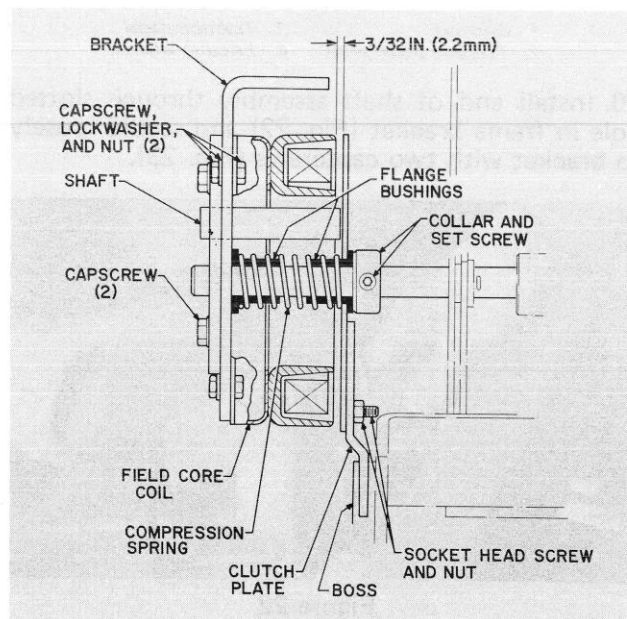

Figure 31
19. Position top of clutch plate so there is approximately 3/32 in. (2.2 mm) between plate and coil (Fig. 31). Push collar against plate and secure with set screw (Fig. 31).
20. Check position of clutch plate with respect to traction pedal boss (Fig. 31). Plate should be centered on boss (Fig. 31). If not centered, loosen collar set screw and jam nuts securing shaft and re-position shaft. Tighten nuts and set screw to secure adjustment.